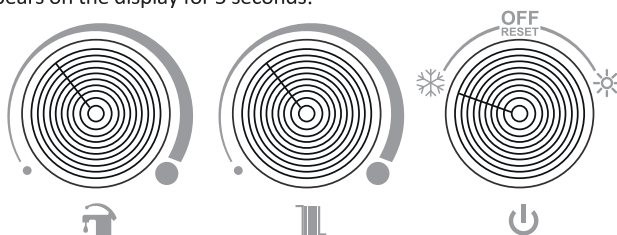

Figure 22
**WINTER POSITION:** Take the position selection button to winter position. (Figure 22) In this position, you can meet both your central heating and domestic hot water requirements. You can set the central system’s heating temperature in between 30°C - 80°C by the central system temperature adjusting button, and the domestic hot water’s temperature in between 35°C - 64°C by the domestic hot water temperature adjusting button.